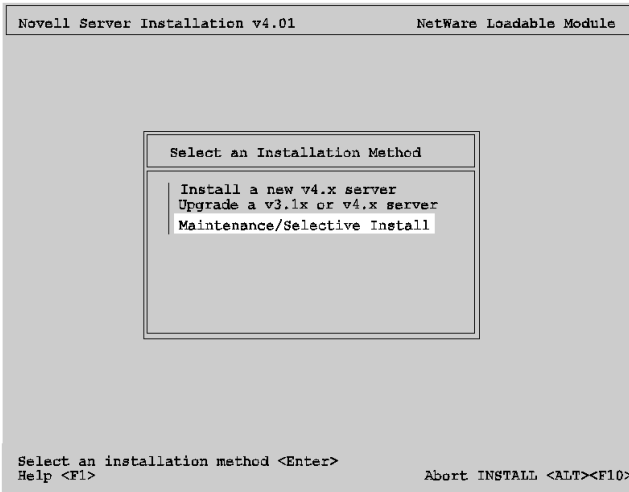

figure 8-4 Novell Installation Screen
2. At the NetWare prompt, Type **LOAD INSTALL <ENTER>**. A screen similar to the following will be displayed (see figure 8-4).